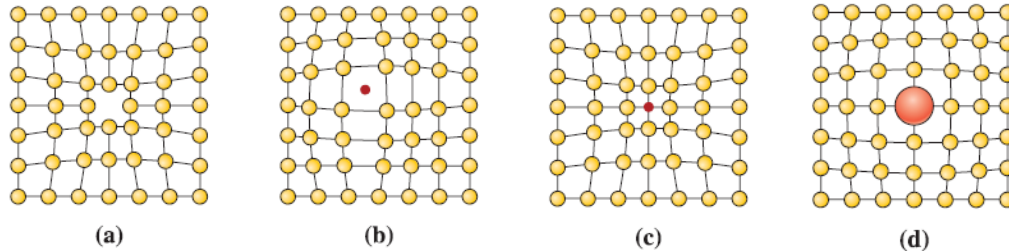

Figure 9: Point defects: (a) vacancy, (b) interstitial atom, (c) small substitutional atom, (d) large substitutional atom
- **Vacancies:** A vacancy is produced when an atom or an ion is **missing** from its normal site in the crystal structure as in Figure 9 (a).
- **Interstitial Defects:** An interstitial defect is formed when an extra atom or ion is **inserted** into the crystal structure at unoccupied position, as in Figure 9(b).
- **Substitutional Defects:** A substitutional defect is introduced when one atom or ion is **replaced** by a different type of atom or ion as in Figure 9(c) and (d).